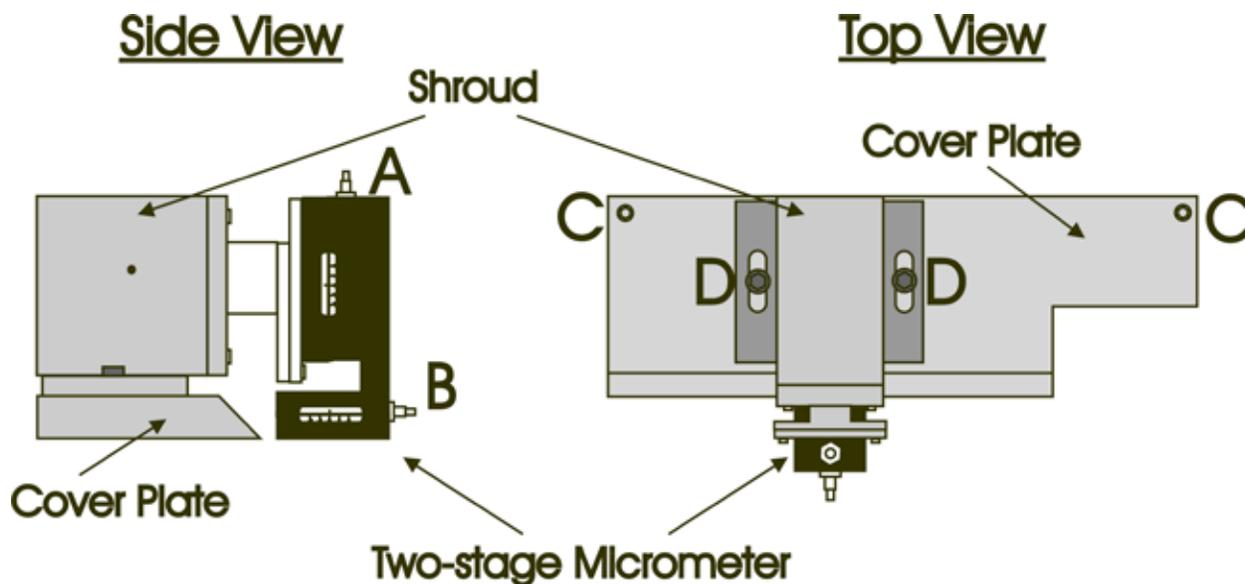
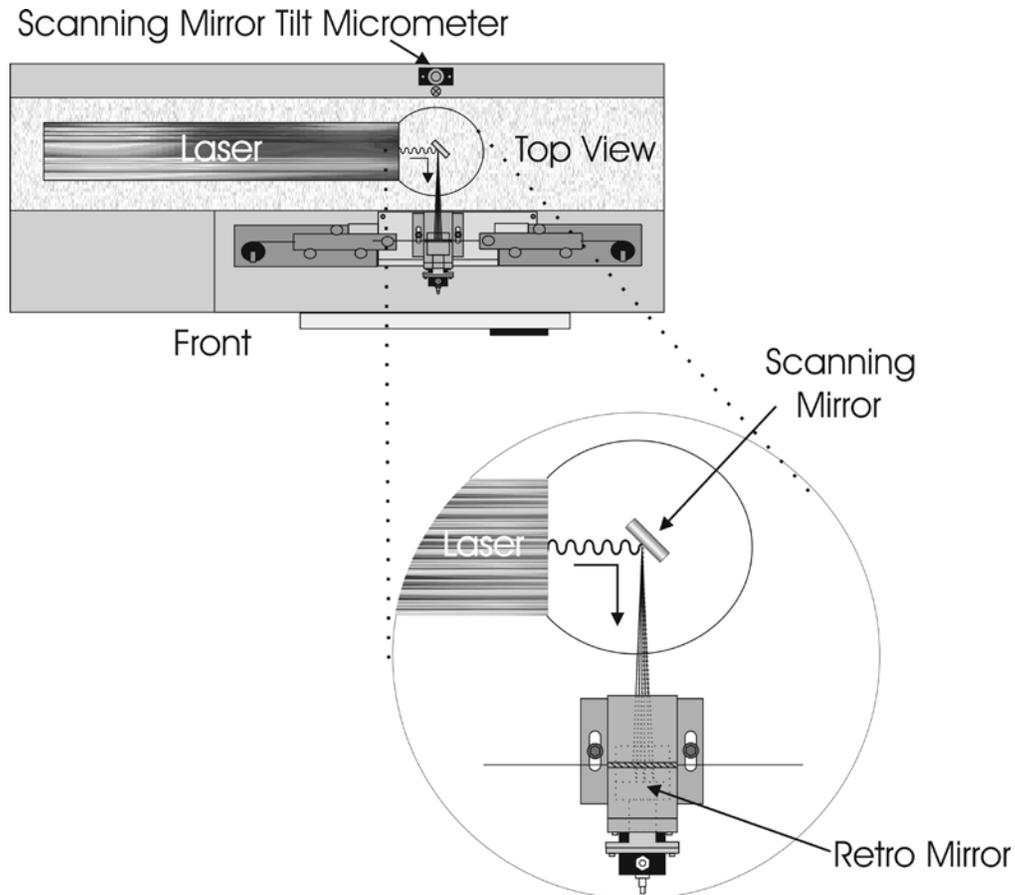
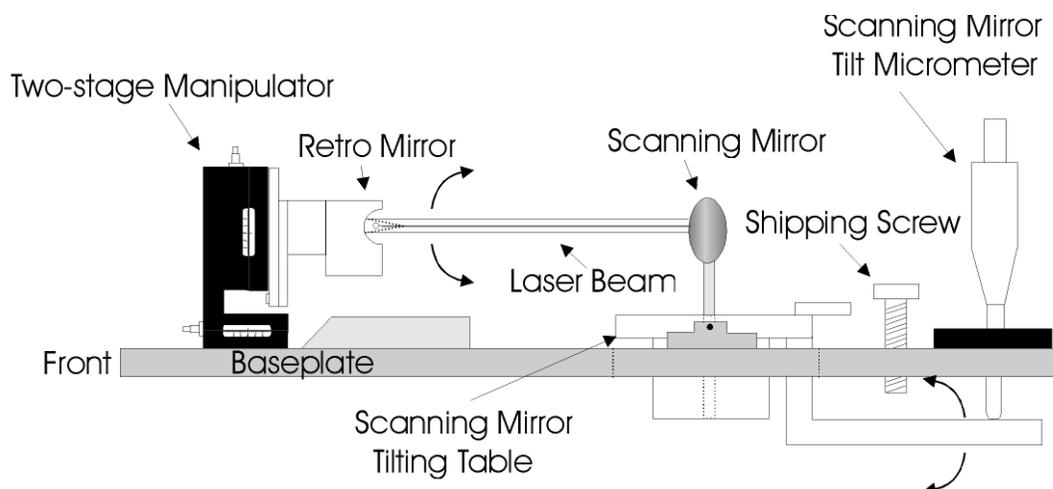

Figure 1-4. Retro Mirror Assembly
Figure 1-5. Optical Pathway (top view without laser housing).
Figure 1-6. Optical Pathway
- RETRO MIRROR** Covered by the SHROUD and not visible in Figure 1-4. See the Optical Pathway section and Figure 1-6 for details.
- SHROUD (Figure 1-4)** The SHROUD encloses the RETRO MIRROR and the optical pathway of the laser beam. This component is one of the safety features protecting the user from exposure to the laser beam. Access holes in the side of the SHROUD allow the glass to be loaded into the optical pathway of the laser. On a fiber puller, model P-2000/F, the “fiber” SHROUD access holes are connected by a slot to make loading the fiber more convenient. The SHROUD can be removed for inspection and cleaning of the RETRO MIRROR by unscrewing the two screws (labeled D in Figure 1-4) that hold it to the COVER PLATE and lifting the SHROUD straight up.
- TWO-STAGE MICROMETER (Figure 1-4)** The TWO-STAGE MICROMETER is used to align the RETRO MIRROR contained in the SHROUD. Alignment of the RETRO MIRROR has been performed at the factory and should not need readjustment. See the MAINTENANCE chapter for details on this procedure.
- COVER PLATE (Figure 1-4)** The cover plate conceals the entry of the PULLING CABLES into the BASE of the instrument. It is attached to the BASE PLATE by two screws (labeled C in Figure 1-4). The SHROUD, in turn, is anchored to the COVER PLATE.
The laser beam used to melt the glass in this instrument is directed as indicated in Figure 1-5, below. Each of the components necessary for defining the optical pathway of the laser beam are labeled in that figure and described in this section.
(Figure 1-5)
(Figure 1-5 & Figure 1-6)
**SCANNING MIRROR TILT MICROMETER (Figure 1-6)**
**RETRO MIRROR (Figure 1-6)**